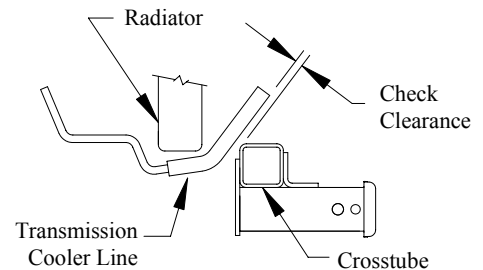

FIGURE 2
5. Check clearance of transmission cooler line. Bend or tie back to prevent contact with receiver as shown in Figure 2.